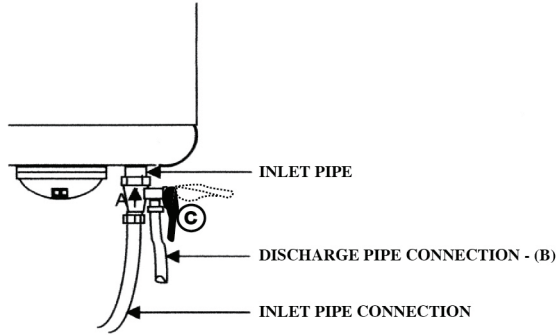

Fig. 1 (b)
The safety valve (A) (Refer Fig. 1 (a) & 1 (b), which is fitted on the cold water inlet pipe of the water heater, fulfills the following functions :